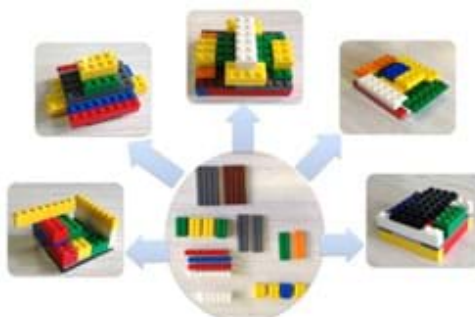

Figure 3. Using the same LEGO pieces, students create their own model buildings.
2. Alternatively, give each student an identical set of 20-25 **LEGO pieces** (estimated cost \$3), from which they can make their own unique model buildings (Figure 3); available for purchase at <http://shop.lego.com/en-US/Pick-A-Brick-ByTheme;%20http://creative.lego.com/en-us/default.aspx>; a suggested mix of typical LEGO pieces for a set of 19 includes the following pieces: